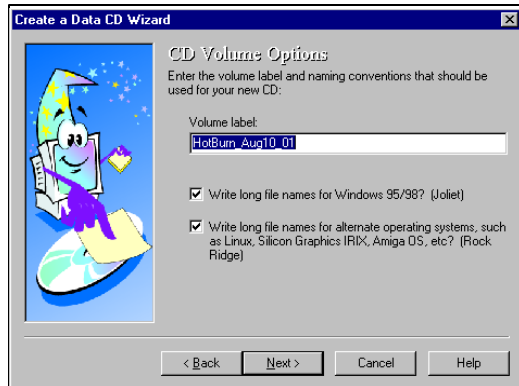

Figure 4
5. At the Volume Options window, input the desired name in the Volume Label field for the completed CD-R. Verify that the long names checkboxes are selected to prevent the names from being truncated by the operating system. Click on the Next button to continue. See Figure 4 below.